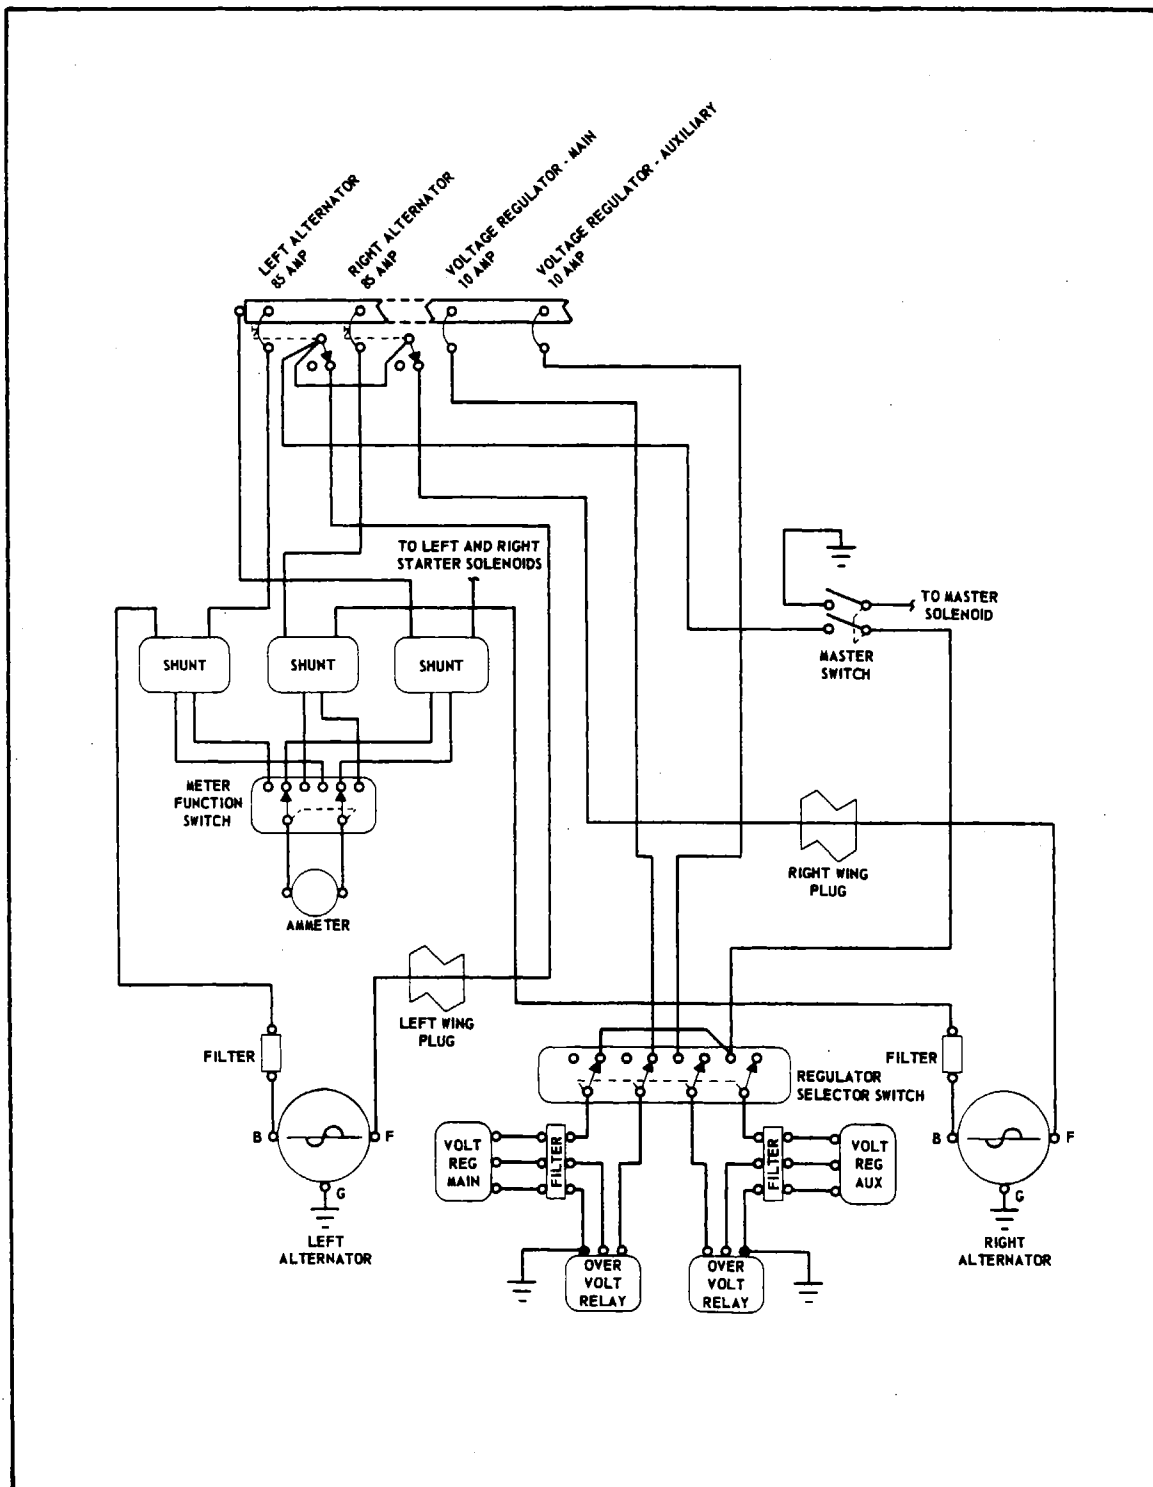

Figure 11-20. Alternator System Wiring Schematic (Delco-Remy)
11-49. CLOSING VOLTAGE. To check the closing voltage of the cutout relay, connect a voltmeter from the GEN terminal of the relay to the relay base or ground as shown in Figure 11-20. Slowly increase the generator speed until the contact points close and read the voltage on the meter. To adjust the closing
11-53. CHECKING ALTERNATOR SYSTEM. The ammeter is equipped with a selector switch which enables an independent output check of each alternator, as well as the electrical output-input of the battery. Should either alternator show no output on the ammeter, check the appropriate circuit breakers. If a further check of the ammeter shows no output from both alternators, switch to the auxiliary voltage regulator and over voltage relay. If switching to the auxiliary system indicates no electrical output, further check the alternator system. (Refer to Figure 11-20.)
- f. Should there be no indication of voltage, trace back through the output circuit until voltage is indicated. (Refer to Figure 11-20.) A component that allows no voltage to pass through it should be replaced.